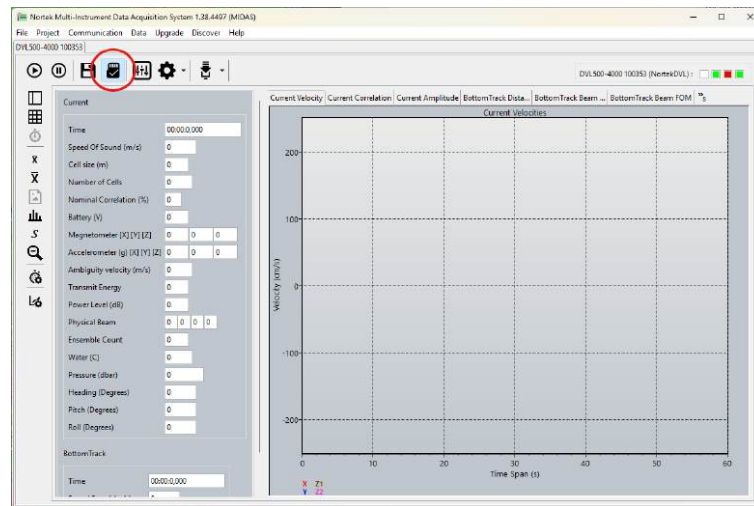

Figure 17: Midas Save to DVL Recorder
- Alternatively, one may configure recording the spectrum to file on the DVL’s recorder. Naturally the recording option is more sensible if there is not a suitable, real-time, communication channel and the DVL/Vehicle is below the surface. This is done by selecting the SD card icon on the Midas home screen (figure 17). Contact Nortek for assistance to view recorded data.